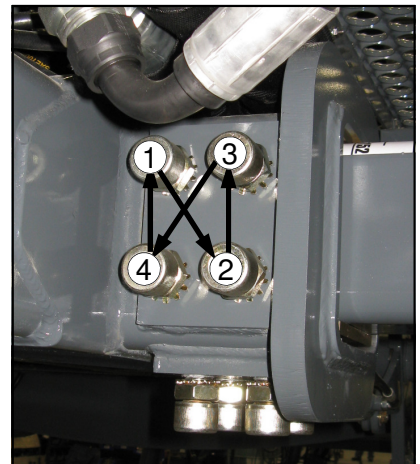

FIG 128-2
2. Using an “X” pattern (fig. 128-2), verify that current torque on each tread adjust bearing bolt is equivalent to the last check from 100 hours previous.